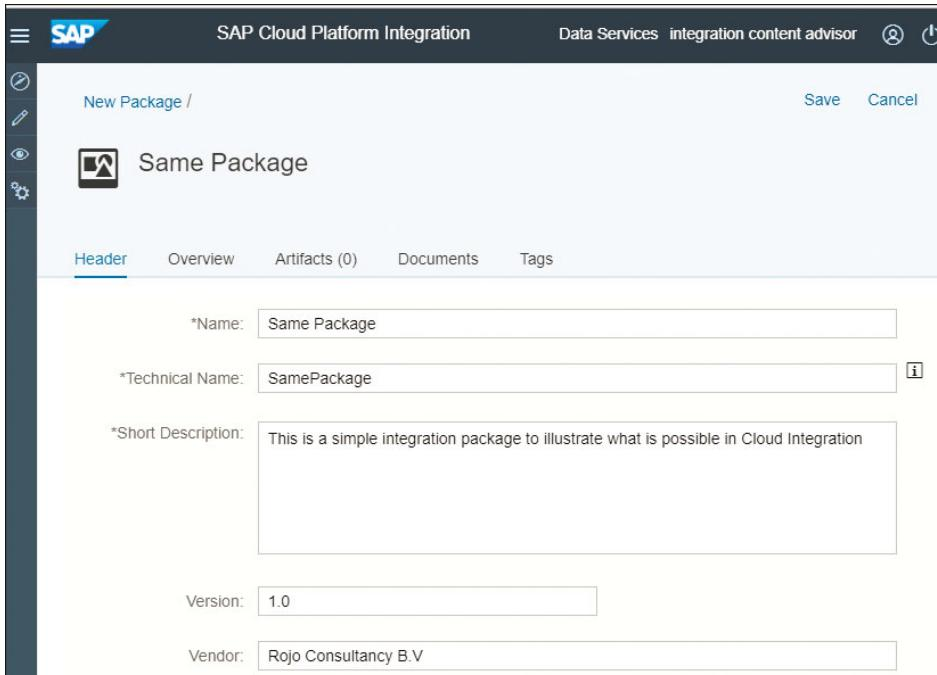

Figure 3.29 Specifying Details of the New Integration Package
3. On the next screen, specify the name of the new integration package. Additional metadata details, such as the version, owner, mode, description, tags, products, industries, line of businesses, country, and keywords, can be provided. Some of this metadata is shown in Figure 3.29. You can maintain of these metadata details in tabs such as **Overview** and **Tags**. Bear in mind that this metadata is important to better classify content and allow consumers to find it easily. It's therefore important to provide as much detail as possible.
4. Save the package using the **Save** button, as shown in Figure 3.29.